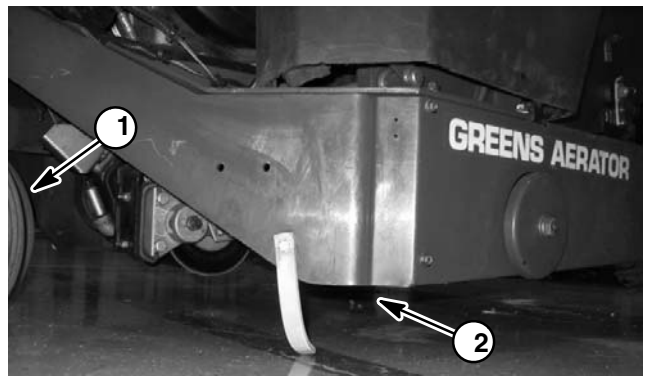

Figure 2
3. Position jack securely under the front of the frame on side of machine (Fig. 2).